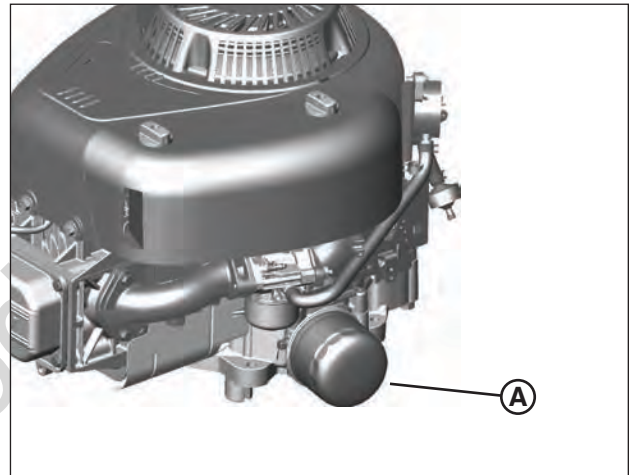

Figure 23: Oil filter
2. Remove the oil filter (A, Figure 23) and dispose of properly.